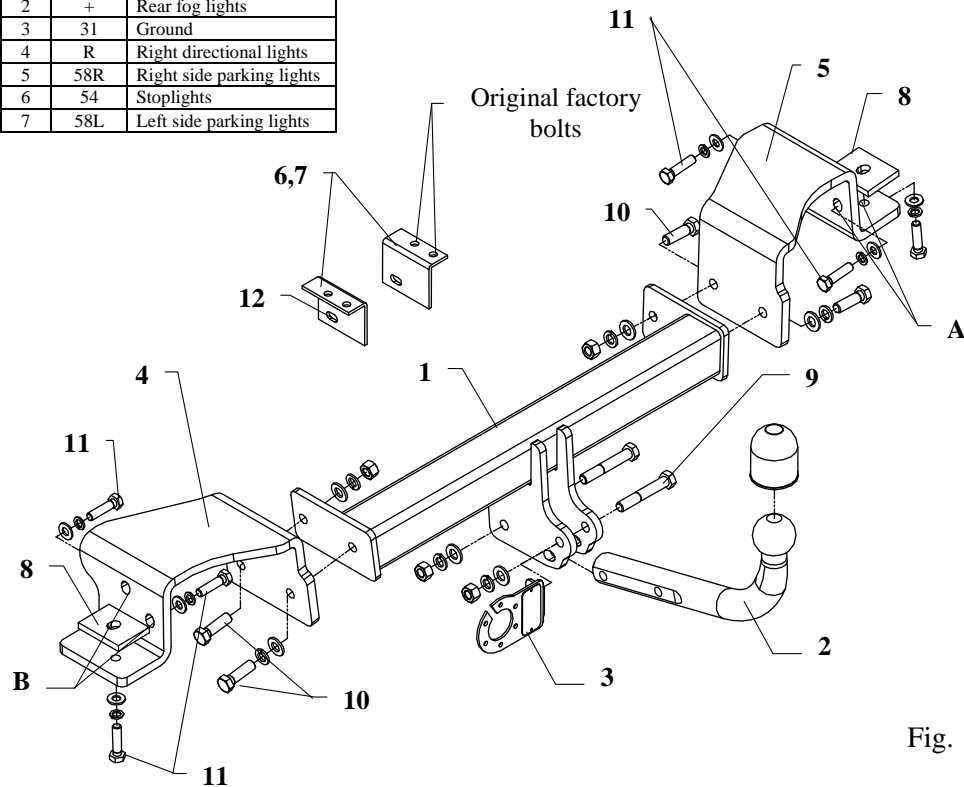

Fig. 1
5. Elements (pos. 4 and 5) put to chassis members (holes pos. A and B must agree with original points of towbar mounting) and fix it using bolts M10x1,25x40mm – poz. 11 (loosely), put washers (pos. 15) under bolts – see fig. 1.
6. Between elements (pos. 4 and 5) slip main bar of the towbar (pos. 1) and screw it using bolts M12x40mm (pos. 10).
7. Fix tow-ball (pos. 2) and socket plate (pos. 3) using bolts M12x75mm (pos. 9) from accessories.